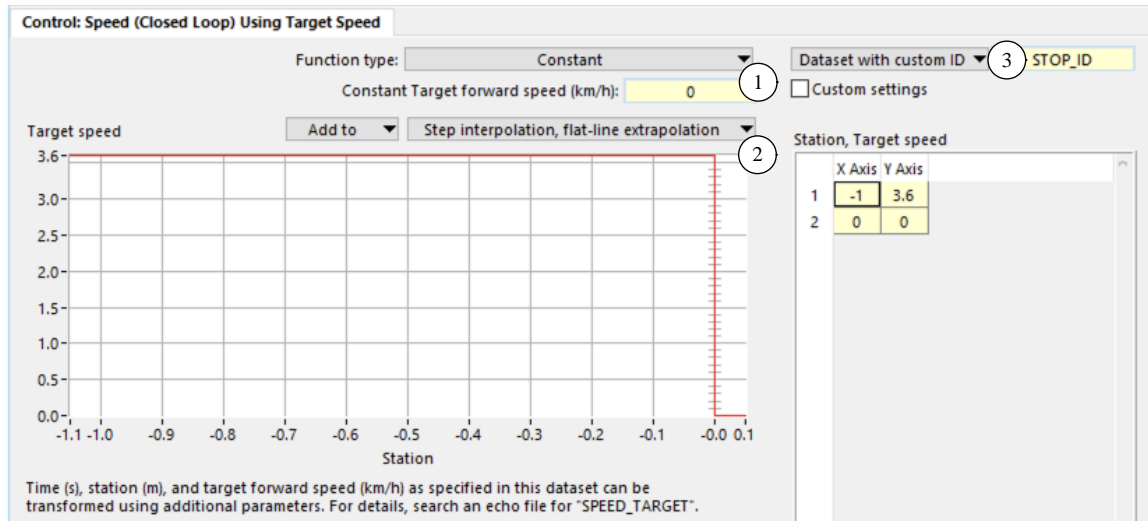

Figure 46. Normalized target speed dataset with 1 m/s (3.6 km/h) constant for  $S < 0$ , then 0.
If an Event is triggered to cause the vehicle to stop for a stop sign or red light, the speed target dataset might be switched to a normalized speed dataset (Figure 46).
1. The current `SPEED_TARGET` index `ISPEED` is set, based on the parameter `STOP_ID` via the VS Command `SET_ISPEED_FOR_ID` (2). This `SPEED_TARGET` dataset is the one shown in Figure 46.
2. The vertical (speed) scale `SPEED_TARGET_GAIN` is set to the current vehicle speed, `Vxz_Fwd` (3). Multiplying this scale with the original value of 1 m/s means the `SPEED_TARGET` dataset now has an initial value equal numerically to the current value of `Vxz_Fwd`.